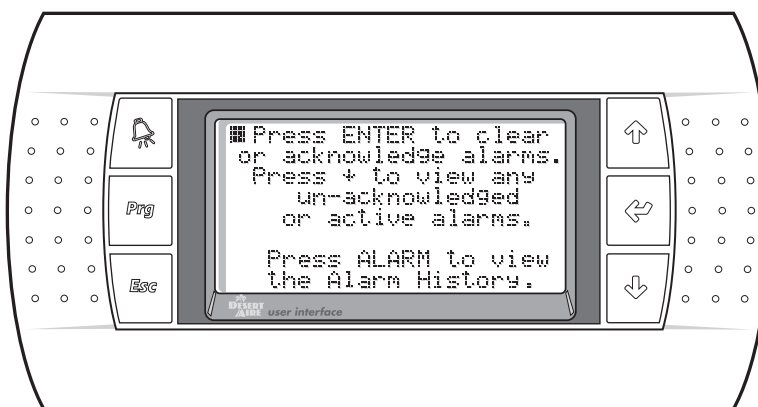

Figure 70
3.1.1 Alarm Screen (Figure 70)